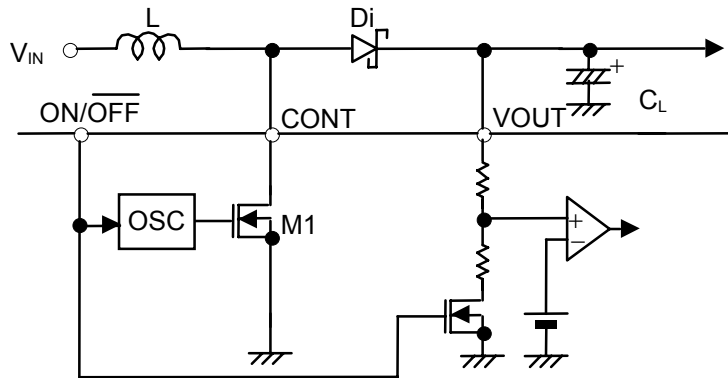

Figure 7. Step-Up Switching Regulator Circuit for Basic Equation
The following are the basic equations [(1) through (7)] of the step-up switching regulator (see Figure 7). Voltage at CONT pin at the moment M1 is turned ON (current ( $I_L$ ) flowing through L is zero),  $V_A$ :